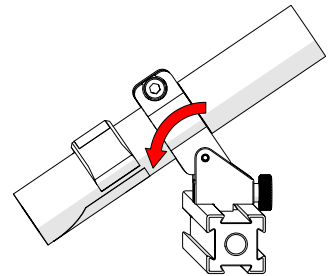

Fig. 256 - Aim guide
3. Adjust the optical guide's friction pivot to direct the laser beam as required (Fig. 256).